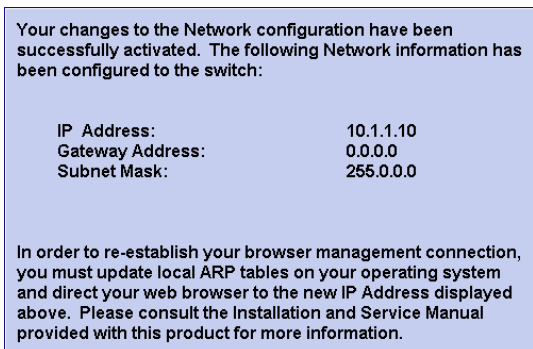

Figure 2-11 Network Information Message Box
3. Click *Activate* to save and activate the changes. The following message box displays (Figure 2-11).